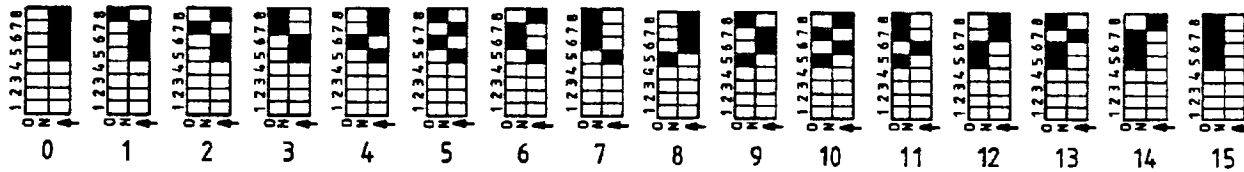

Fig. 12
7. To set the switch settings, change meter to cleaning position, turn the meter control off and change switches (fig. 12) to calibration setting #5. Turn meter back on, press stop, and continue with test.